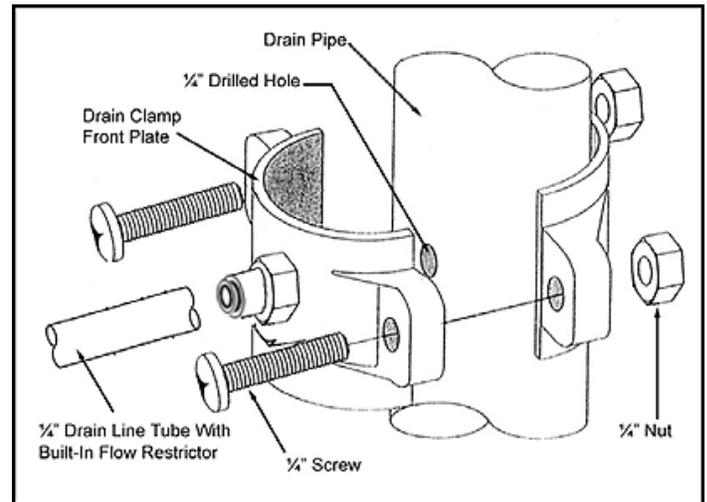

Fig 3
4. Drain saddle valve installation (see Figure 3)